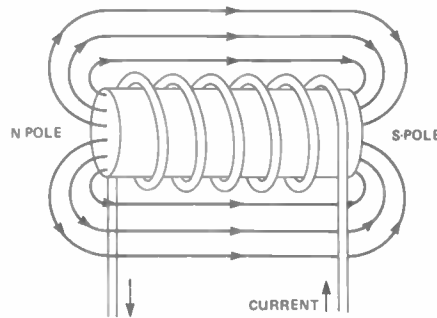
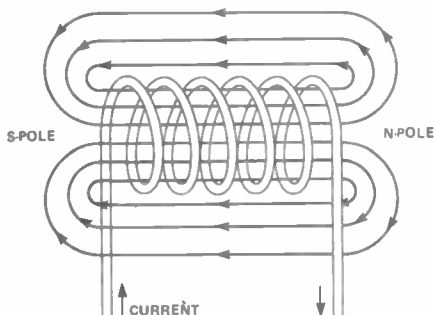

Figure 5. Reversing the direction of the electric current reverses the magnetic field.
Figure 4. Winding the coil around a soft iron former concentrates the electromagnetic field.
Another way to create a stronger magnetic field is to form this loop around a metal core (soft iron is best). The soft iron core (Figure 4) concentrates the field, producing a stronger electromagnet. Figure 4 shows how the coil is now effectively a single magnet with the usual north (N) and south (S) poles. When the current flows as shown, ie, anti clockwise, the north pole is at the right hand end of the electromagnet. However, if the current flows clockwise as in Figure 5 the poles reverse ends!